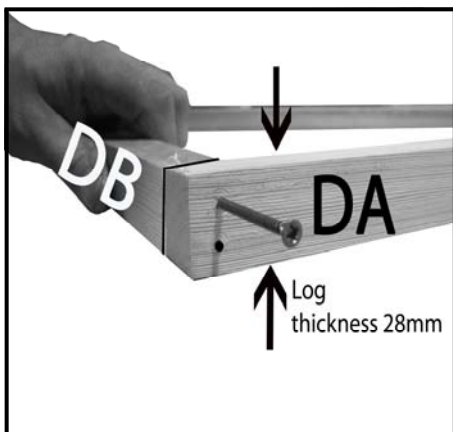

Fig B2
4. Screw together at each corner, 10mm in from the edge (ensuring each corner is flush) with 2x50mm screws (fig B2).